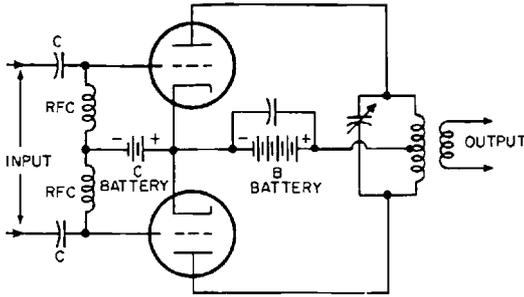

Fig. 41-6. The push-pull radio-frequency amplifier.
**The Push-Pull Amplifier.** As in the case of the audio-frequency amplifier, the radio-frequency amplifier may be operated in *push-pull* for greater power output. The push-pull circuit may be operated as a class C amplifier. Figure 41-6 shows a typical circuit.